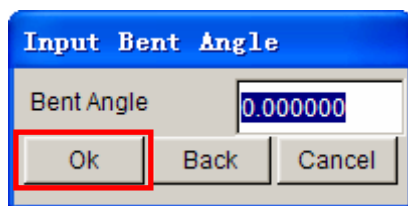

Figure 58 Input Bent Angle dialog box
10. Click **Ok** to accept bend angle: 0° , as illustrated in Figure 58.